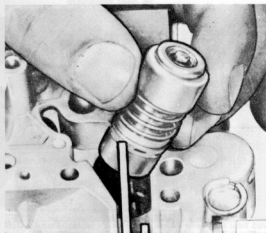

Fig. 3.26. Lifting out primary accelerator pump piston (Sec. 9)
- 5 Lift out the primary accelerator pump piston past the operating lever (Fig. 3.26).